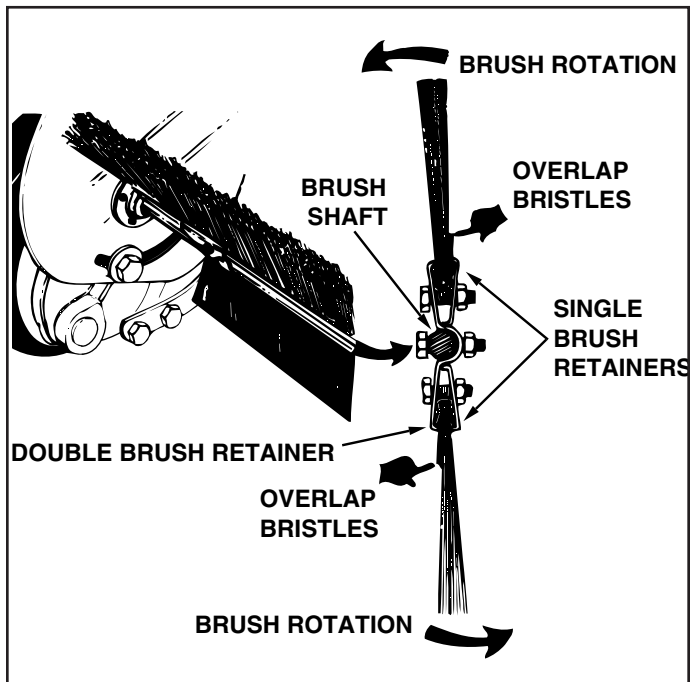

FIGURE 26
2. Loosen the hex bolts and lock nuts on two single brush retainers which clamp one brush to the double brush retainers. **Do Not loosen** or remove the bolts which fasten the double brush retainers to the brush shaft. See figure 26.
3. Slide the brush out of the retainers, noting on which side of the brush the bristles overlap. See figure 26.
4. Install new brush, making sure the bristles overlap on the same side of the brush as before. See figure 26.